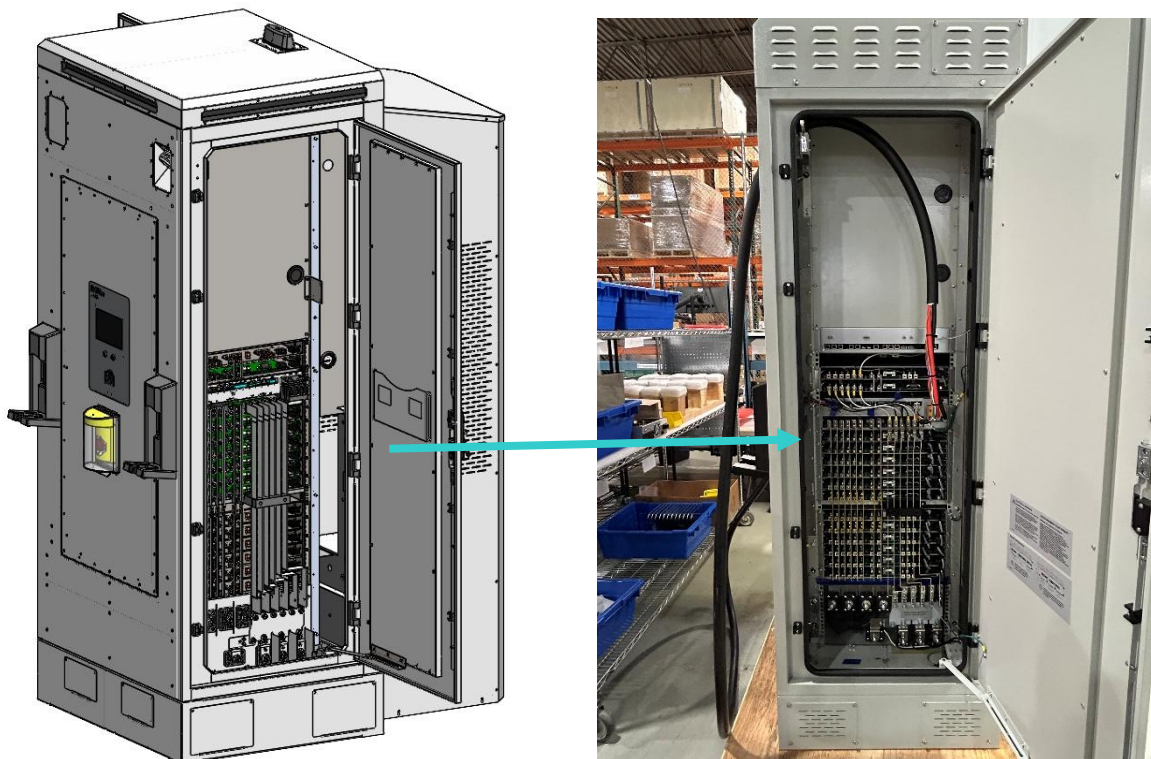

Figure 37 - Opening 60 kW Bi-Directional Charger's right-side door
2. Open the right-side door of charger (see Figure 37).